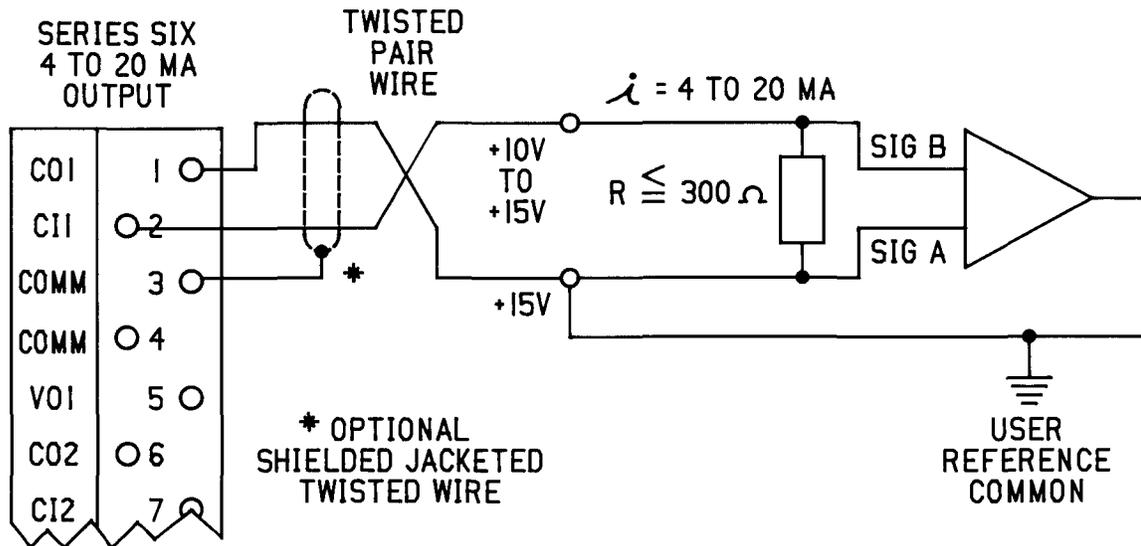

FIGURE 6B. SYMBOLIC NON-FLOATING USER INPUT CIRCUIT OR
1. If damage can be caused to user input circuitry when Signal A or Signal B are more than 10V above user common then user common must be connected as shown in Figure 6B to the Series Six +15V point. Because of this connection user common should never be connected to Series Six common.